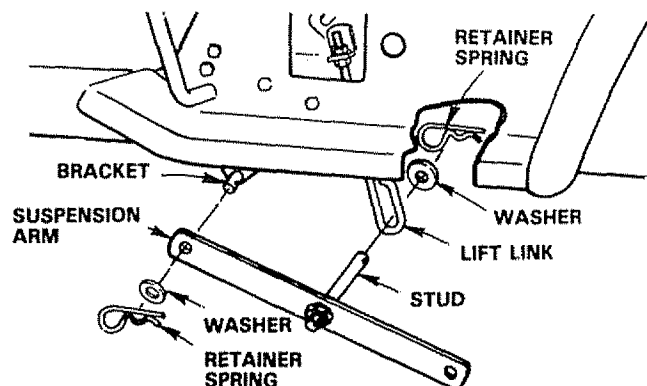

FIGURE 8
- Slide studs through lift links on both sides of tractor (Fig. 8). Retain with washers and retainer springs found in bag of parts.
- Place the suspension arms on brackets on both sides of frame (Fig. 8). Retain with washers and retainer springs found in bag of parts.
BEFORE DRIVING THE TRACTOR, INSTALL MOWER OR REMOVE FRONT MOWER SUSPENSION BRACKET AND SUSPENSION ARMS.(FIG.8)